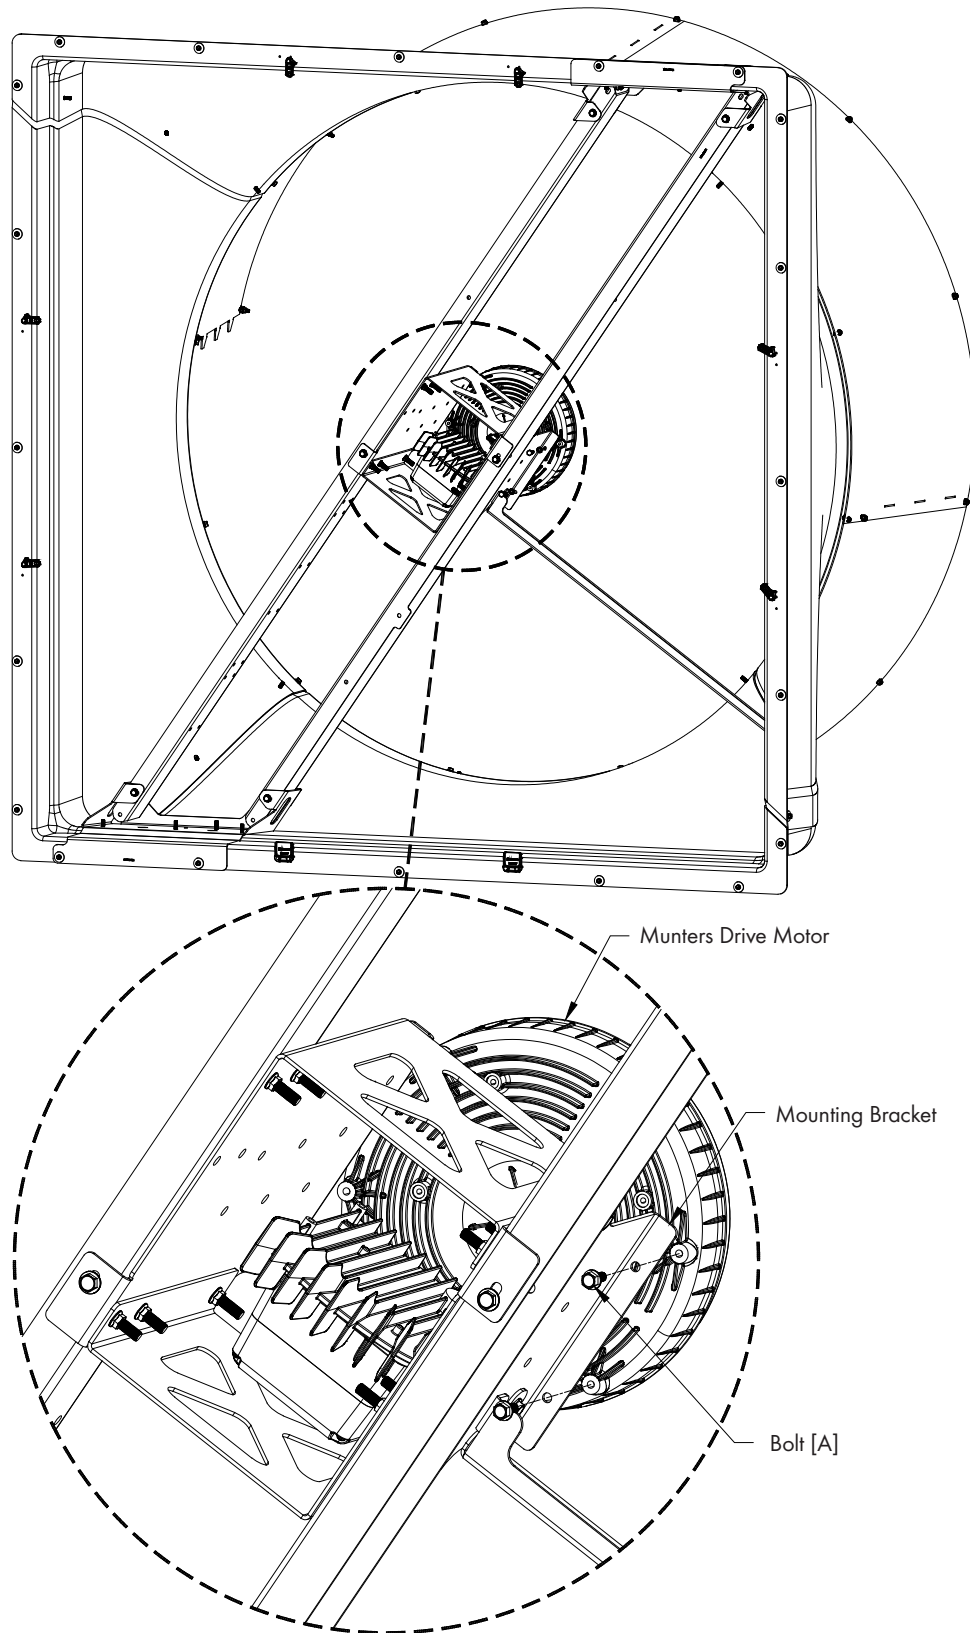

Figure 8
Carefully lift Motor/Drive into place and secure in place using (4) Bolts [A]. Tighten Bolts to 60 in-lbs. [6.8 Nm] of torque. See Figure 8.